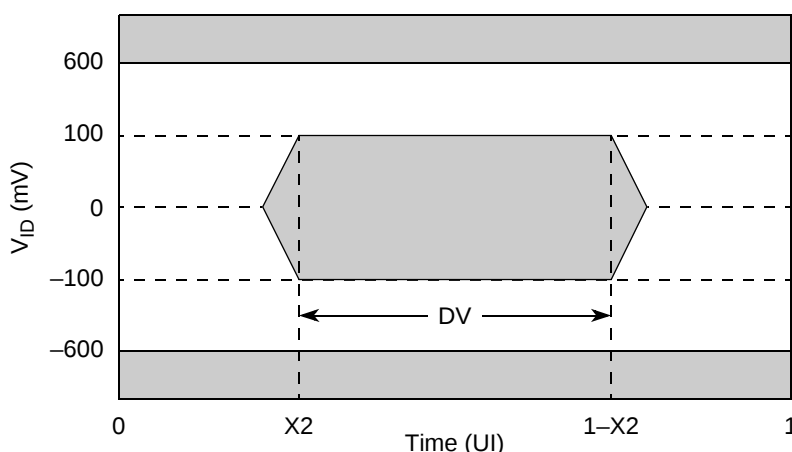

Figure 40. RapidIO Receive Mask
2. Measured using the RapidIO receive mask shown in Figure 40.
The compliance of receiver input signals RD[0:15] and RFRAME with their minimum data valid window (DV) specification shall be determined by generating an eye pattern for each of the data signals and comparing the eye pattern of each data signal with the RapidIO receive mask shown in Figure 40. The value of X2 used to construct the mask shall be $(1 - DV_{min})/2$. The ± 100 mV minimum data valid and ± 600 mV maximum input voltage values are from the DC specification. A signal is compliant with the data valid window specification if and only if the receive mask can be positioned on the signal's eye pattern such that the eye pattern falls entirely within the unshaded portion of the mask.